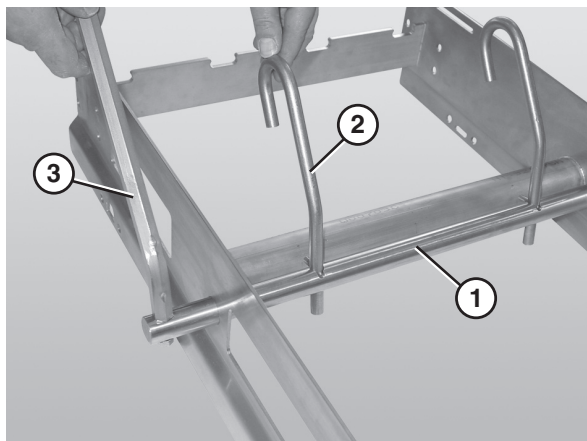

Figure 31
1. Slide the belt lift pivot bar (Figure 31, item 1) through the designated holes in the frame.
2. Attach the lifter bars (Figure 31, item 2) to the belt lift pivot bar (Figure 31, item 1). Make sure the hooked ends of the lifter bars are facing down when resting against the frame.
3. Attach the lifter handle (Figure 31, item 3) to the belt lift pivot rod.